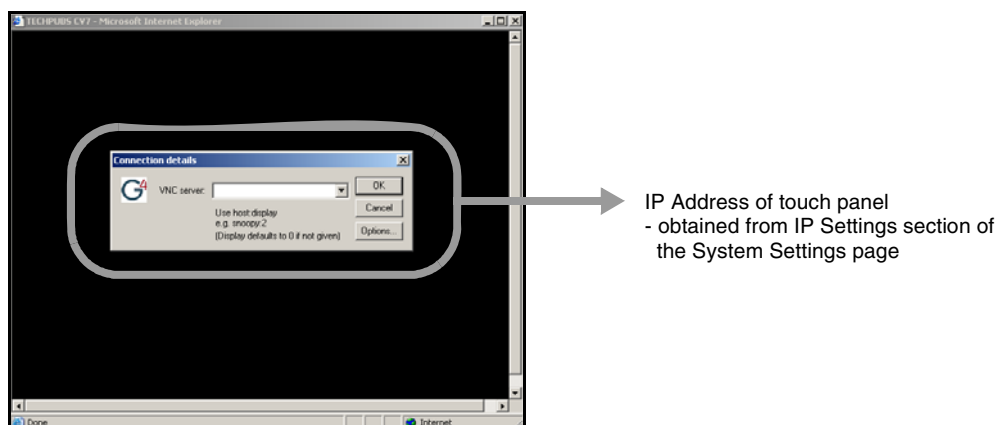

FIG. 92 Connection Details dialog
8. In some cases, you might get a *Connection Details* dialog (FIG. 92) requesting a VNC Server IP Address. This is the IP Address not the IP of the Master but of the target touch panel. Depending on which method of communication you are using, it can be found in either the: